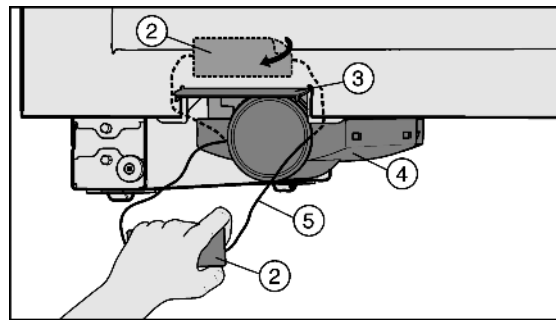

Fig. 58
- ▶ Remove any labels *Fig. 58 (2)* from the appliance.
- ▶ Open the filter change flap *Fig. 58 (3)*.
- ▶ Carefully pull out drawer *Fig. 58 (4)* by the string *Fig. 58 (5)*.
- ▶ Cut off the string *Fig. 58 (5)* together with the label *Fig. 58 (2)* and pull out. It is no longer required and can be disposed of.
- ▶ Close the filter change flap *Fig. 58 (3)*.